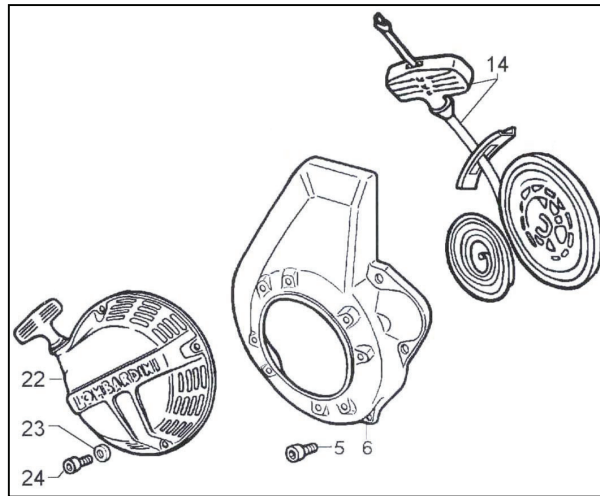

Figure 40
8.7.8 Pull Rope (figure 40, #14)
1. Remove the four cover screws and lock washers (figure 40, #23 & #24).
2. Remove and discard remainder of worn pull rope (figure 40, #14) and spring (figure 40, #25). The pull rope and spring come together in an assembly. **Do not try and fix a broken pull rope, order the entire assembly instead.**
3. Replace pull rope (figure 40, #14) and spring (figure 40, #25).